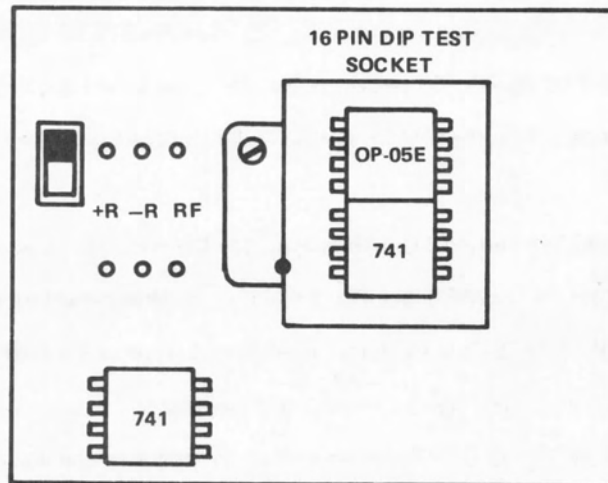

Fig. 5-6. Test circuit for CMRR adjust.
b. Construct the circuit of Fig. 5-6 on the Standard Op Amp card. This method uses an op amp having good CMRR and drives its terminals common mode, thereby improving the op amp CMRR to ≈ 160 to 180 dB.
- k. Press the DISPLAY ZERO button. Switch the External Feedback selector (see Fig. 5-6) (to the left of the test socket) away from the NORM position.